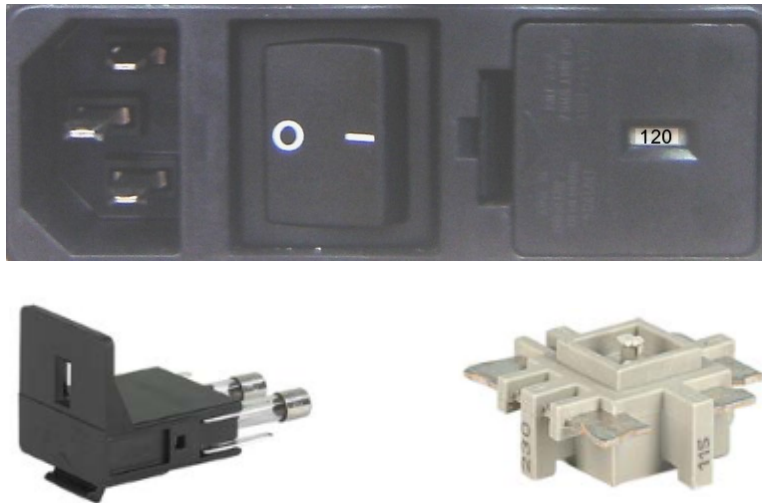

Figure 5.1: Power Module Entry Fuse Replacement
- From the fuse drawer, shown in Figure 5.1, remove the two fuses and insert the new ones. See Table 5.2 for fuse requirements.